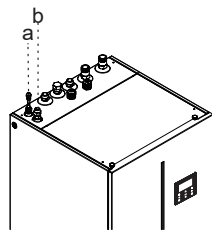

Fig.5-2
- If the indoor unit is matched with outdoor unit (4/6kW), the transfer 9.52-6.35(See the table in Page 8) should be mounted on the refrigerant liquid connection of indoor unit(Refer to Fig.5-2); The transfer is not used in other types of outdoor unit(8/10/12/14/16kW).